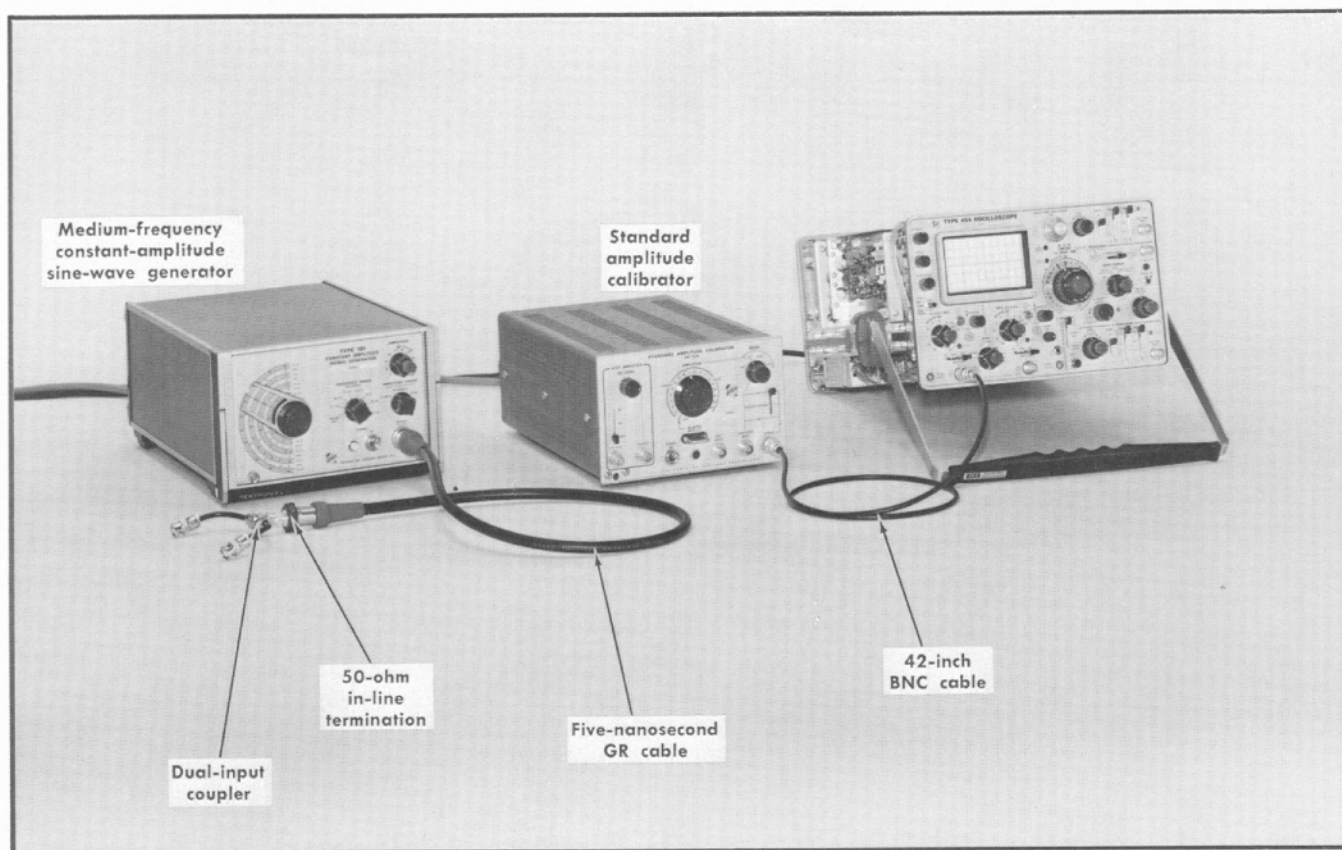

Fig. 6-57. Initial test equipment setup for steps 72 through 76.
- Test equipment setup is shown in Fig. 6-57.